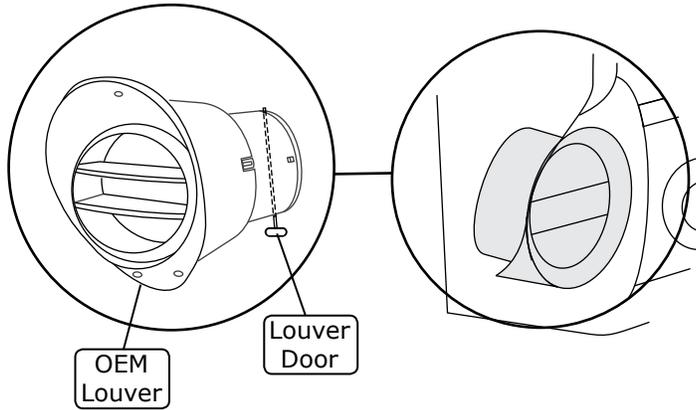

Figure 11
2. Vintage Air recommends removing the louver doors (See Figure 11, below).